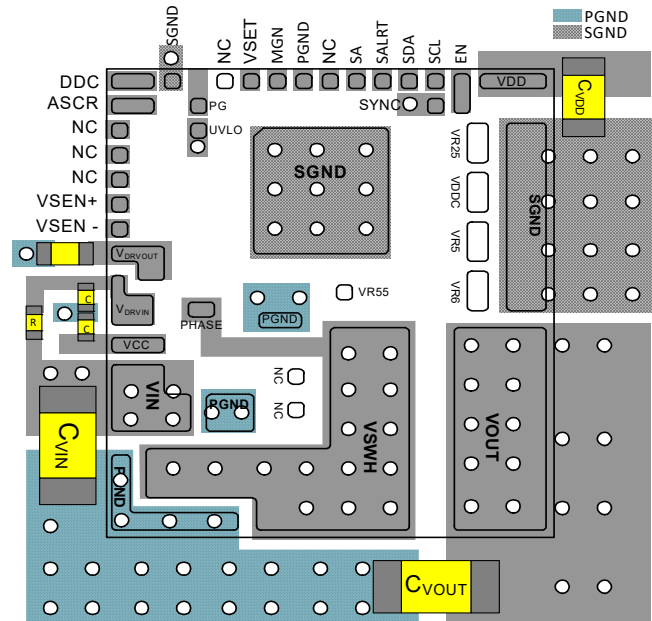

FIGURE 29. RECOMMENDED LAYOUT - TOP PCB LAYER
- For  $V_{DD} > 6V$ , the recommended PCB layout is shown in Figure 29. Leave V25, VDDC, VR5, and VR6 as “No Connect”.